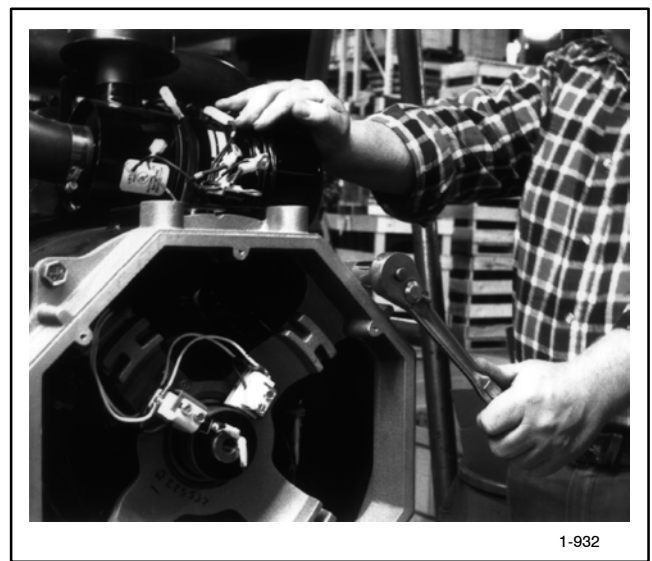

Figure 8-9. Removing the Overbolts
17. Remove the four overbolts securing the end bracket using a 17-mm ratchet. See Figure 8-9.